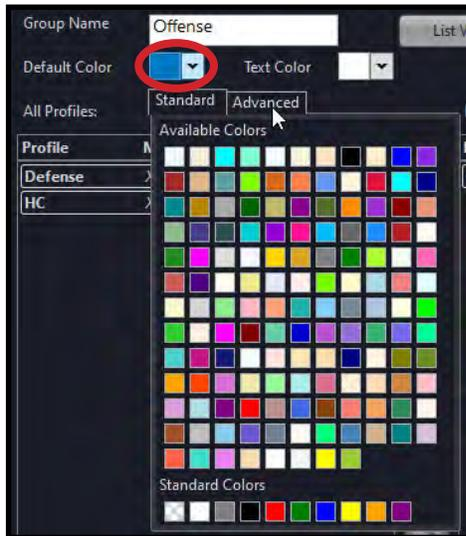

Figure 69: Editing Group Colors
- Open the drop-down color pickers in the Color and Text Color fields, and choose a color to represent the group (see Figure 69). The color chosen here appears on the RP Icons (X-Ware's Home screen) for profiles with the group assignment.